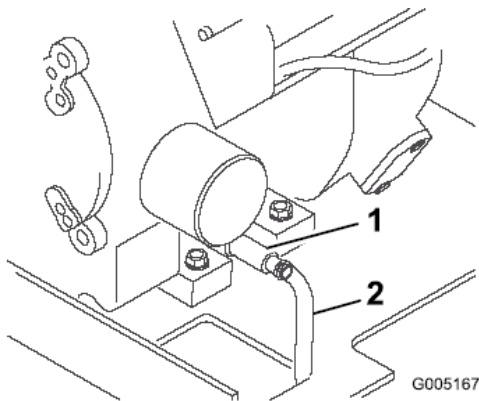

Figure 21
3. Place one end of a hose on the drain valve and the other end in a pan (Figure 21).
4. Open the drain valve by turning it counterclockwise, pulling out as you turn it (Figure 21).